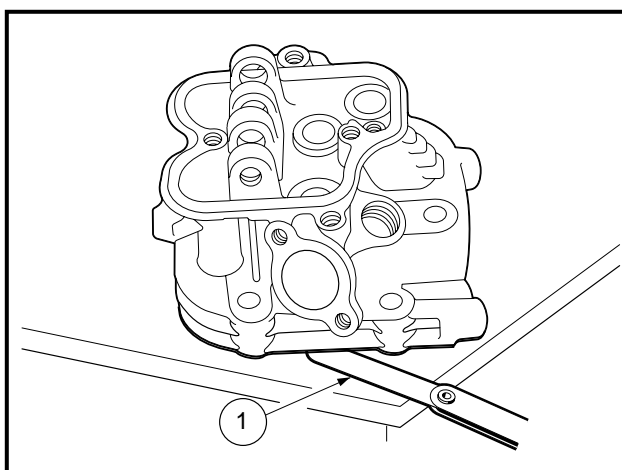

Figure 13-17 Check Flatness of Head Surface
4. Place the cylinder head on a surface plate (**Figure 13-17, Page 13-13**).
5. Measure the space between the surface plate and the head with a feeler gauge (1) to check the flatness of the head surface (**Figure 13-17, Page 13-13**).